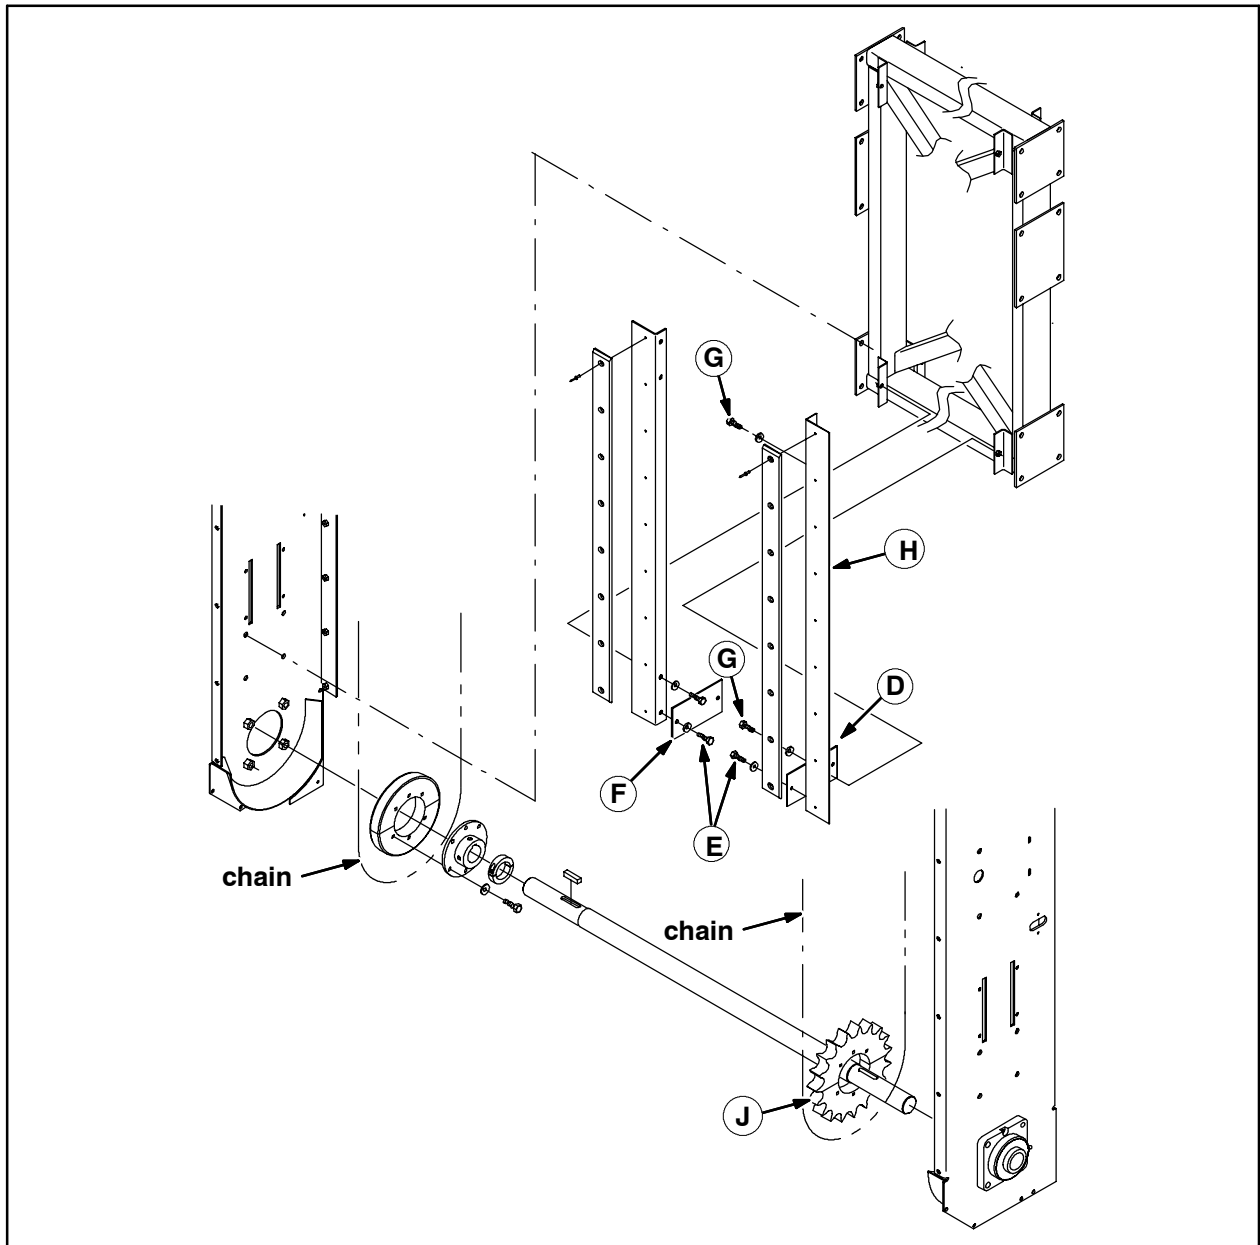

FIG. 5
5. Remove the deflector plate (F) from the right side of the conveyor assembly. Do not discard the bolts or washers (E) since they are needed to install the new plate (5). Tip the new deflector plate (5) so it clears the chain guides and use the bolts and washers removed from the old deflector plate to install the new deflector plate. Torque the bolts 18.5–24 Nm, 13.6–17.7 ft. lbs. Refer to Fig. 5.
6. Remove the deflector plate (D) from left side of the conveyor assembly. Do not discard the bolts or washers (E) since they are needed to install the new deflector plate (5). Remove the top and bottom bolts (G) from the the angle guide (H), slide the angle guide up approximately 2" (enough to allow the deflector plate (5) to be slid over the sprocket teeth, the sprocket teeth will not allow the cover plate to be installed without sliding the angle guide up), and clamp the angle guide to the chain. Refer to Fig. 5.
7. Use the bolts and washers (E) to install the new deflector plate (5) to left front angle guide. Unclamp the angle guide (H), slide the angle guide back into place, and reinstall the top bolt (G) (be sure the angle guide is through the slot in the deflector). Finish bolting the deflector plate and angle guide onto the conveyor assembly. Torque the bolts 18.5–24 Nm, 13.6–17.7 ft. lbs. Refer to Fig. 5.